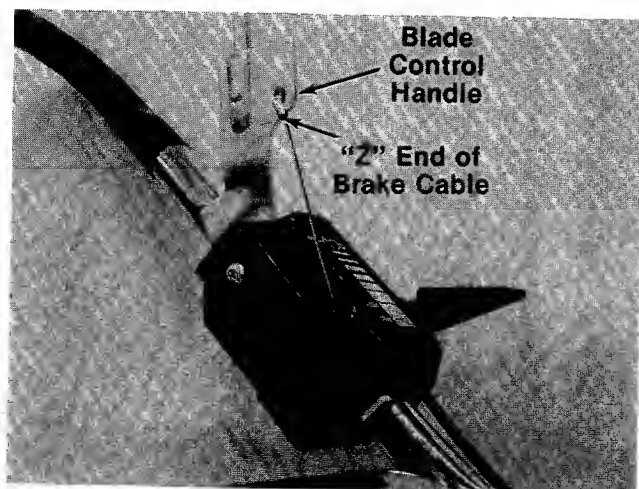

**FIGURE 5.**
8. Route the brake cable under the lower handle. Place the end of the brake cable into the upper hole on the bottom of the control housing, and through the slot in the side of the housing as shown in figure 5. The angle of the flange on the plastic fitting must be positioned downward as shown. Be careful not to bend or kink the cable.